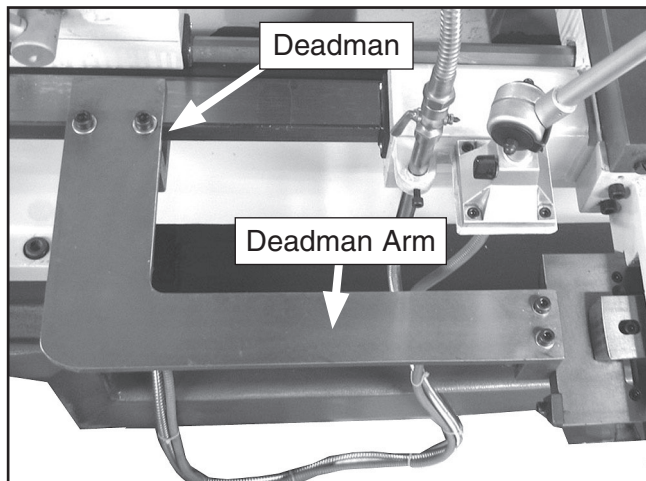

Figure 16. Deadman and arm installation.
21. Position the deadman arm and deadman, as shown in **Figure 16**, and use a 6mm hex wrench to secure the cap screws.